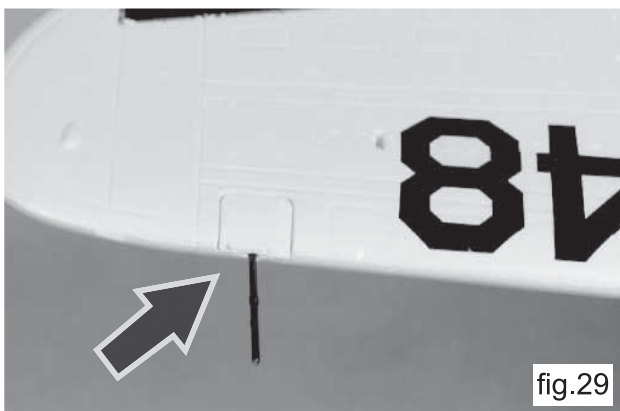

fig.29
- 1) Locate the machine gun sets "M". Glue on the machine gun before inserting to the foam as the arrow shown (fig. 29). There are no difference on two machine guns.